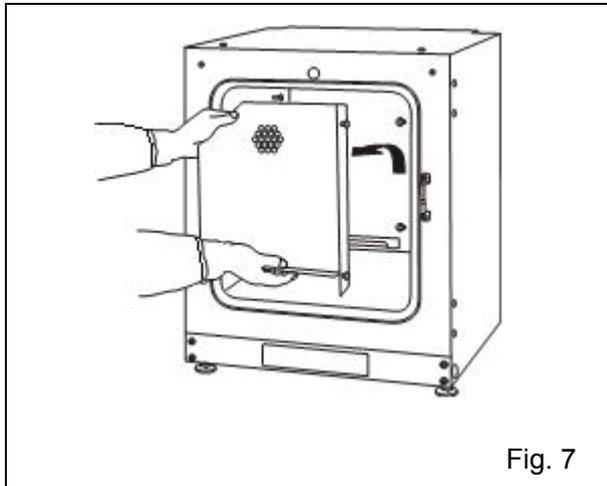

Fig. 7
8. Lift the rear duct and remove it from the pins at the rear side. (Fig. 7)